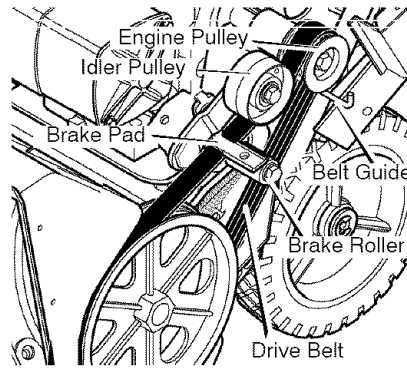

Figure 23
2. Remove the **drive belt** from the **idler pulley** (Figure 23).